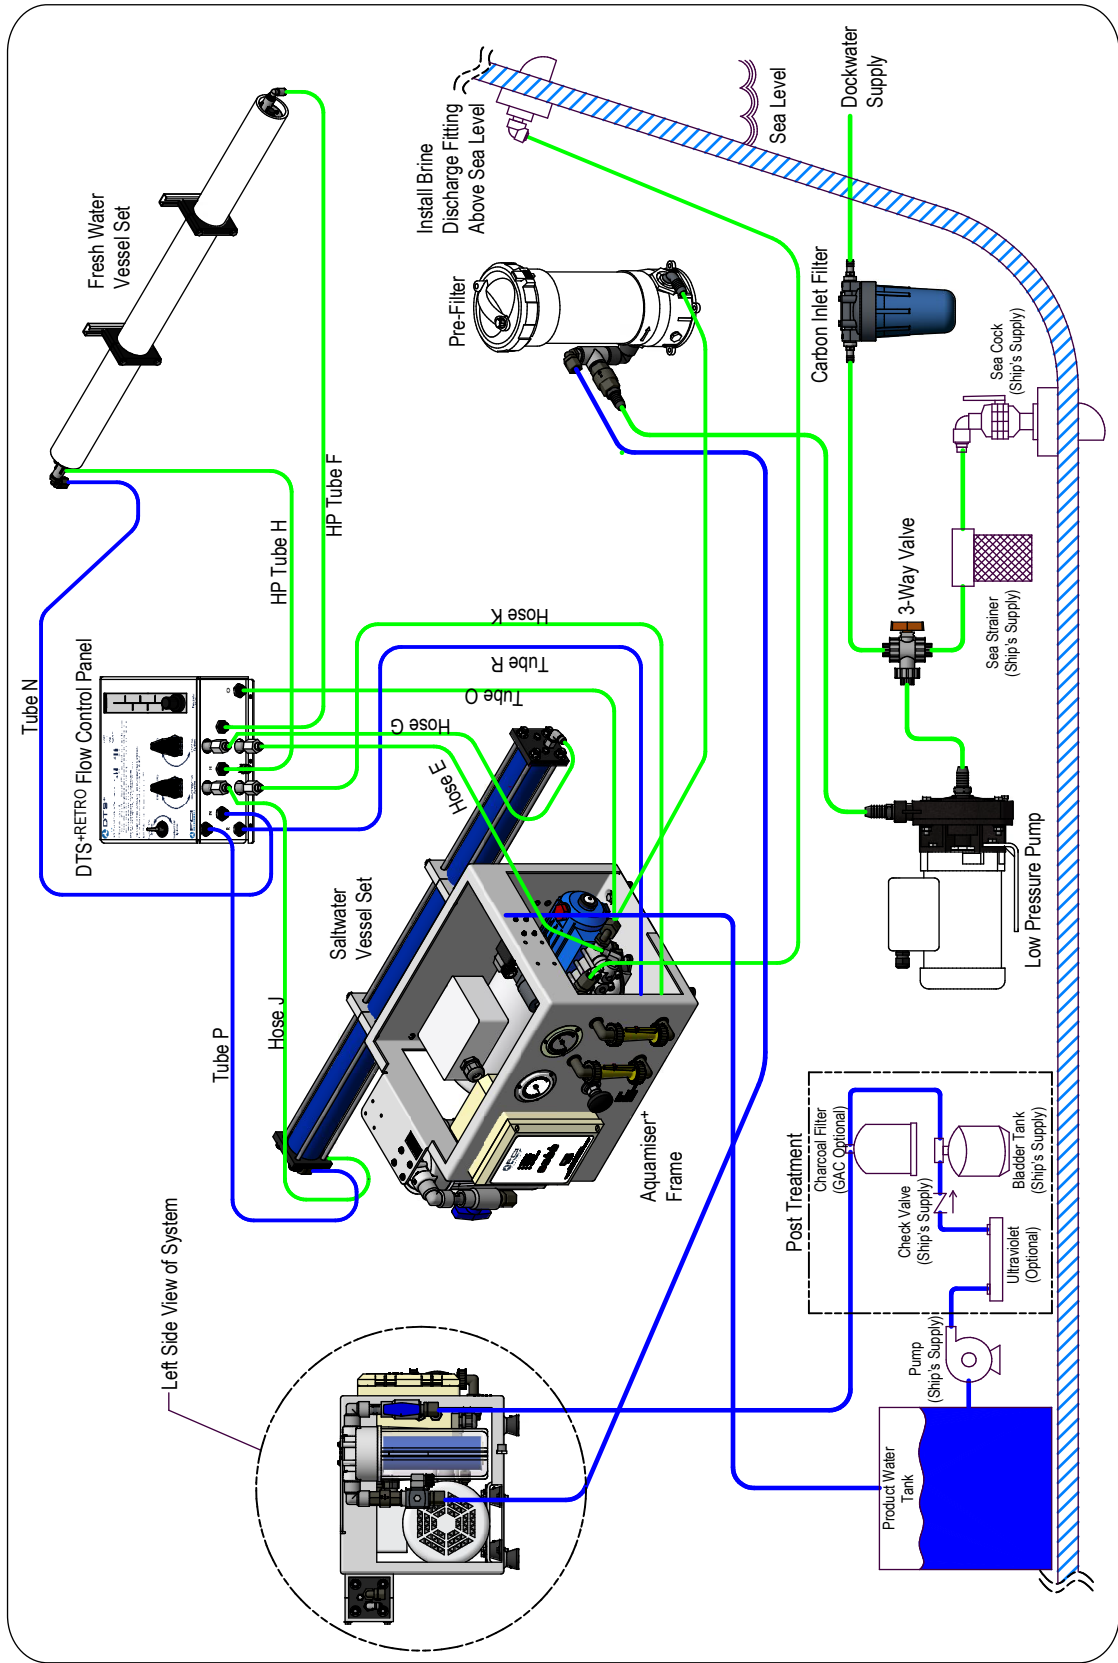

Figure 13: Aquamiser+ Frame 250-600 GPD with DTS+RETRO
- "Figure 13: Aquamiser+ Frame 250-600 GPD with DTS+RETRO" on page 35